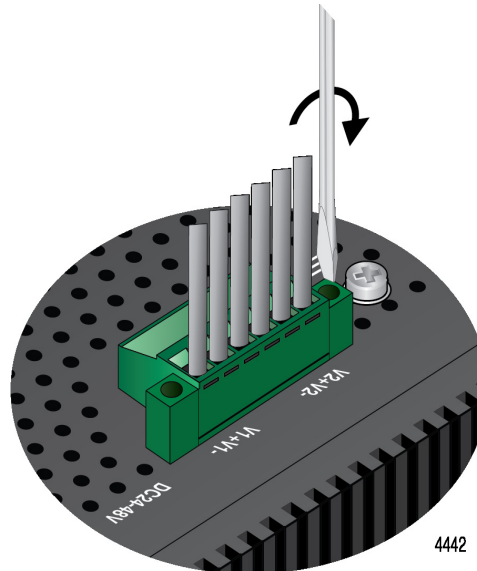

Figure 44. Fasten the Power/Alarm Connector to Chassis
14. On the AT-IS230-10GP switch, tighten the two connector fastening screws on the ends of the power/alarm connector to the chassis as shown in Figure 44.